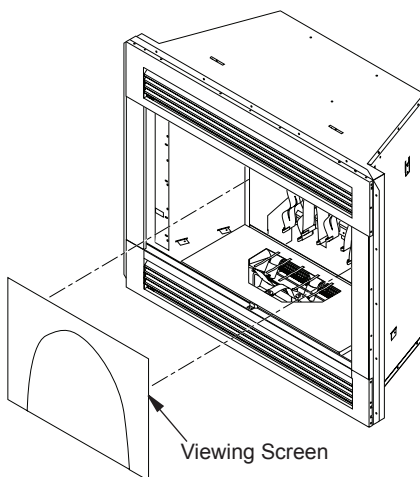

Figure 35 - Removing Viewing Screen
6. Remove viewing screen from cabinet face. Viewing screen is attached by magnets (see Figure 35).